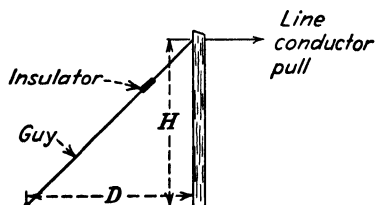

FIG 12-17 Sketch of guy installation to accompany Table 12-2  $H$  is height of guy attachment to pole.  $D$  is distance from pole to anchor.
**TABLE 12-2. MULTIPLIERS TO USE WITH FIG. 12-17 TO DETERMINE THE TENSION IN THE GUY WIRE WHEN THE PULL OF THE LINE CONDUCTORS IS KNOWN**
**Determining Tension in Guy Wire.** The tension in the guy wire for a given line-conductor pull depends on the distance the anchor is installed from the base of the pole. This is made clear from Fig. 12-17 and Table 12-2 where the multipliers are given for different combinations of height  $H$  of guy-wire attachment on the pole and distances  $D$  of guy from pole.